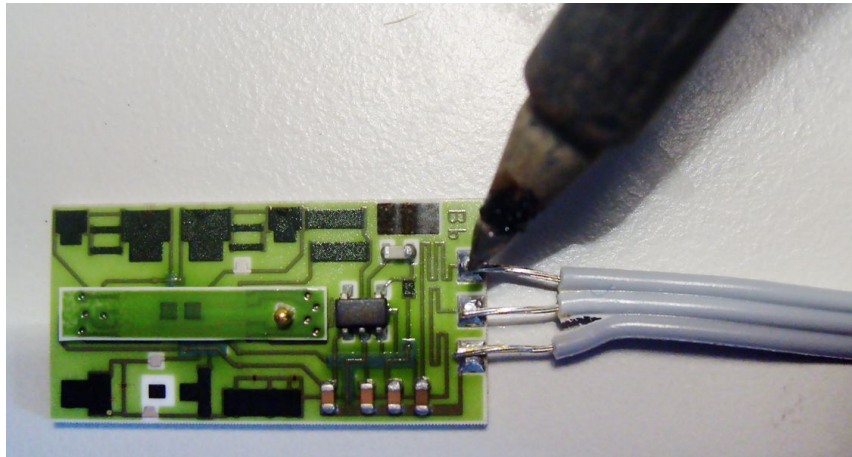
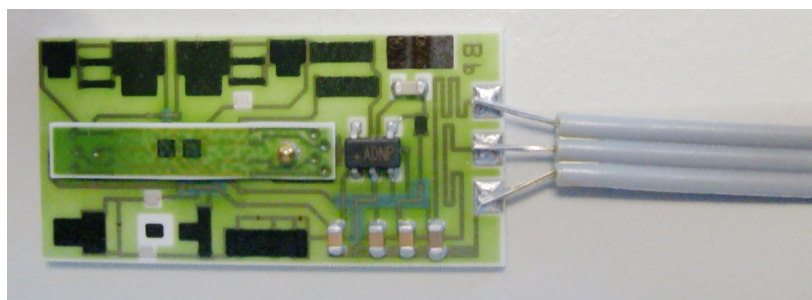

Figure 4. Soldering the wires to the pads without additional material, by melting the solder on the pads and on the wires.
Figure 5. A sensor soldered to a ribbon cable with this procedure.
- **Soldering.** With the iron, **rapidly** melt the solder on each contact (figure 4); **the time the solder is in the molten state must not exceed 5 s.** This is possible with pre-tinned contact pads & wires, as a good bond is established as soon as both solders (on the pad and on the wire) have melted and fused together; no time is wasted for wetting of the surfaces by the solder (reducing high-temperature exposure), and no solder flux is needed (reducing contamination). The result is shown in figure 5.